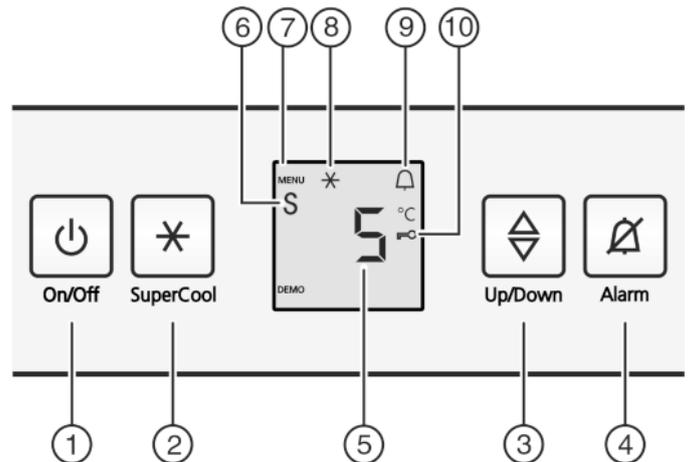

Fig. 2
- ▶ Press the On/Off button Fig. 2 (1).
- ▶ Activate setting mode: Press the SuperCool button Fig. 2 (2) for around 5 seconds.
- ▷ The menu symbol Fig. 2 (7) shines.
- ▶ Use the Settings button Fig. 2 (3) to select c.
- ▶ Briefly press the SuperCool button Fig. 2 (2) to confirm. When c1 is indicated in the display:
- ▶ to activate the child lock, briefly press the SuperCool button Fig. 2 (2).
- ▷ The child lock symbol *Fig. 2 (10)* shines. **c** flashes in the display.
- ▶ to deactivate the child lock, briefly press the SuperCool button *Fig. 2 (2)*.
- ▷ The child lock symbol *Fig. 2 (10)* goes out. **c** flashes in the display.
- ▶ To deactivate the set-up mode: press On/Off button *Fig. 2 (1)*.
- ▶ Press alarm button *Fig. 2 (4)*.
- ▶ Activate setting mode: Press the SuperCool button *Fig. 2 (2)* for around 5 seconds.
- ▷ The Menu symbol *Fig. 2 (7)* lights up.
- ▶ To call up the Sabbath Mode function: Briefly press the SuperCool button *Fig. 2 (2)*.
- ▶ **To switch on** Sabbath Mode, briefly press the SuperCool button *Fig. 2 (2)*.
- ▶ **To switch off** Sabbath Mode, briefly press the SuperCool button *Fig. 2 (2)*.
- ▶ Deactivate setting mode: Press the On/Off button *Fig. 2 (1)*.
- ▷ The temperature display shows the Sabbath Mode symbol *Fig. 2 (6)* as long as Sabbath Mode is on.
- ▶ Call up temperature function: press the setting button *Fig. 2 (3)*.
- ▶ Change the temperature in 1 °C steps: Press the setting button *Fig. 2 (3)* until the required temperature is indicated in the temperature display.